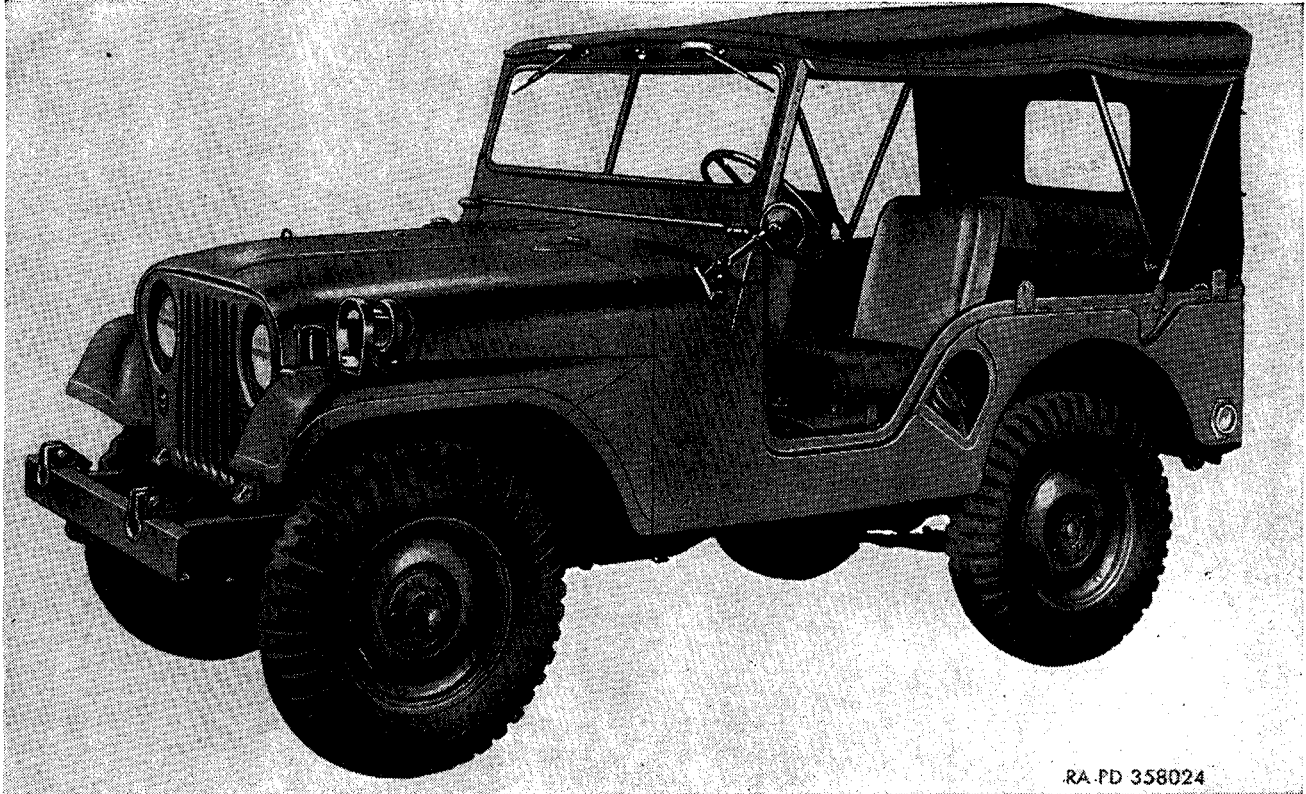

Figure 1. 1/4-ton 4 x 4 utility truck M38A1—left front view.
a. General. This manual describes and illustrates the ¼-ton 4 x 4 utility truck M38A1 (figs. 1, 2, and 3), and the ¼-ton 4 x 4 front line ambulance M170 (figs. 4 and 5). With the exception of the differences discussed in paragraph 5, both vehicles are similar. The descriptions of individual components listed below apply to both models.